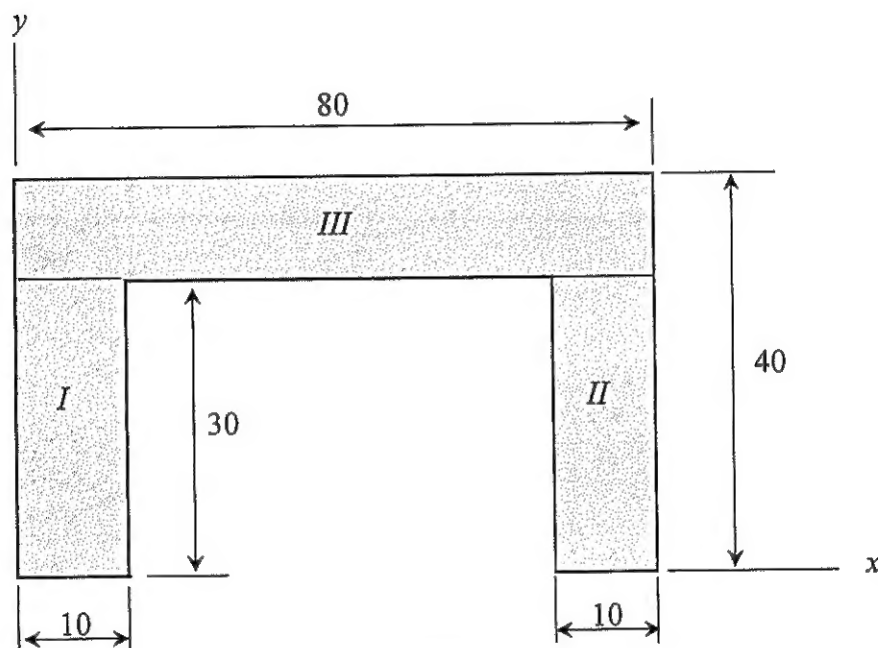

Figure Q3
- a) In Figure Q3 shows an extruded channel beam cross section with given dimension in millimeters (mm).
- b) Using the cross section in Figure Q3, Find mass moment of inertia for  $I_x$  and  $I_y$ . [13 marks]